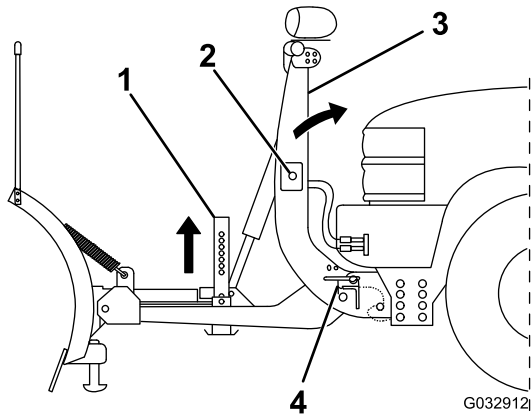

Figure 29
5. Push the SmartHitch2 switch on the side of the coupler tower upward and raise the tower until the coupler spring pins snap in (Figure 29).
7. Pull the kickstand spring pin outward and raise the kickstand, then release the spring pin to secure it (Figure 29).